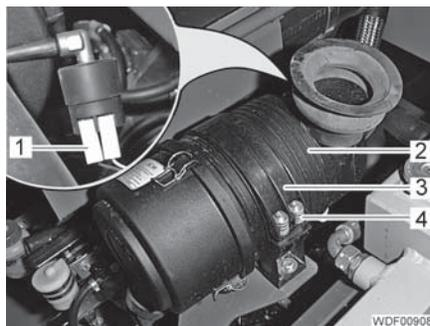

Fig. 87 Air filter
- Mark the position of the air filter housing (Fig. 87,2) on the retaining clamp (Fig. 87,3).
- Remove the 2 connectors (Fig. 87,1) from the vacuum gauge.
- Unscrew the 2 screws (Fig. 87,4).
- Tighten the 2 screws (Fig. 87,4).
- Attach the 2 connectors (Fig. 87,1) to the vacuum gauge.